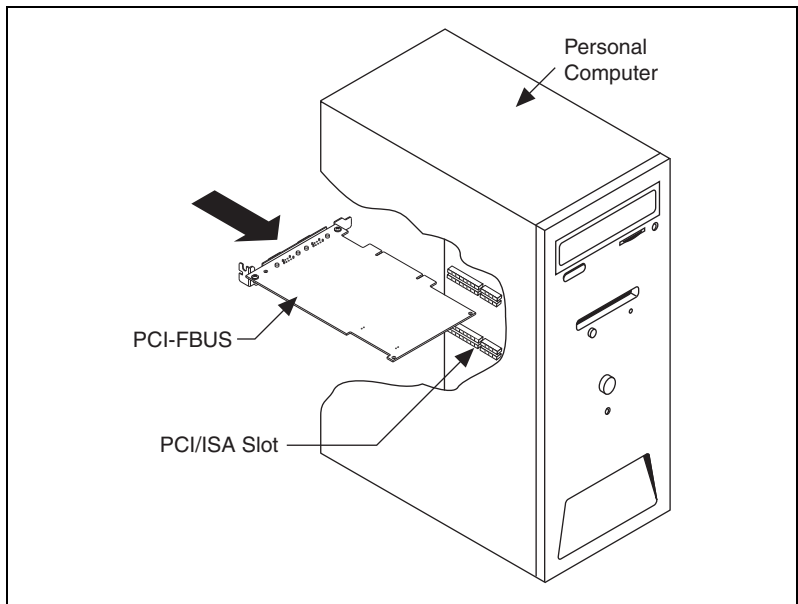

Figure 1. Installing the PCI-FBUS Card
4. As shown in Figure 1, insert the PCI-FBUS card into any unused PCI slot with the Fieldbus connector protruding from the opening on the back panel. Make sure all pins are inserted an equal depth into the connector. Although it might be a tight fit, do *not* force the card into place.